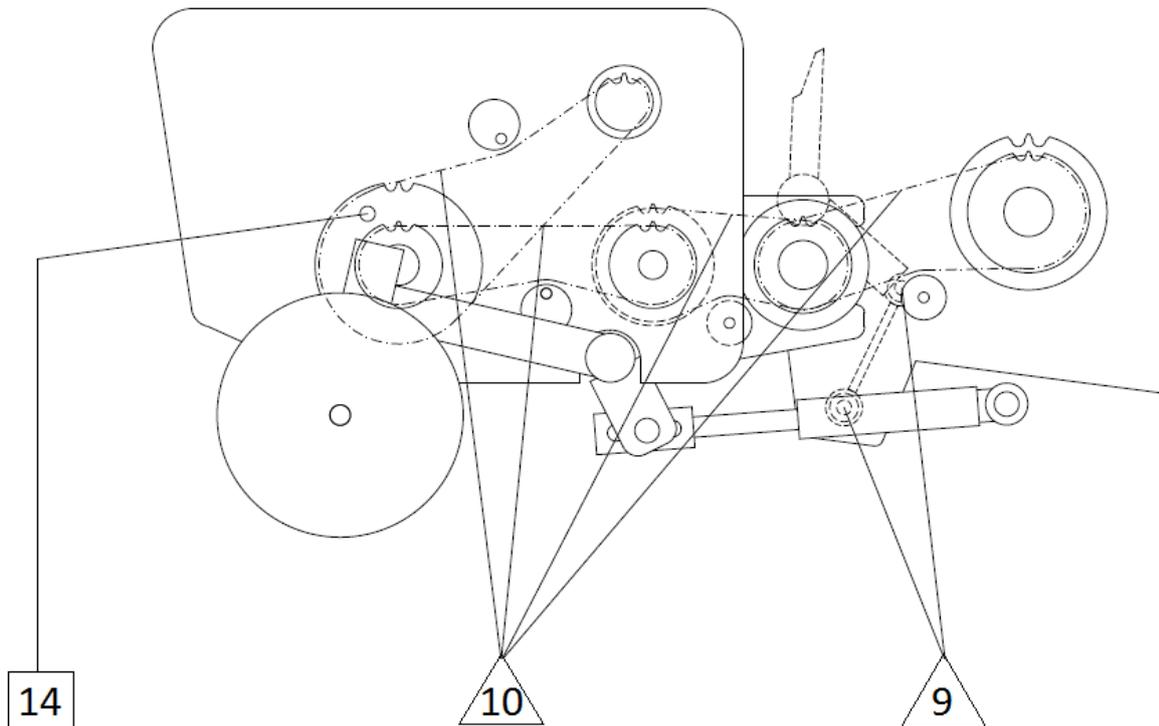

Figure 26 Points of lubrication - the pick-up
To lubricate the pick-up rollers (Fig. 26) you must loosen three screws (1) to remove the cover (2). Next, remove the locking bolt (3) and screw in a grease nipple in its place (4). Apply the lubricate on the pick-up rollers. Remove the nipple and replace the locking bolt (3)